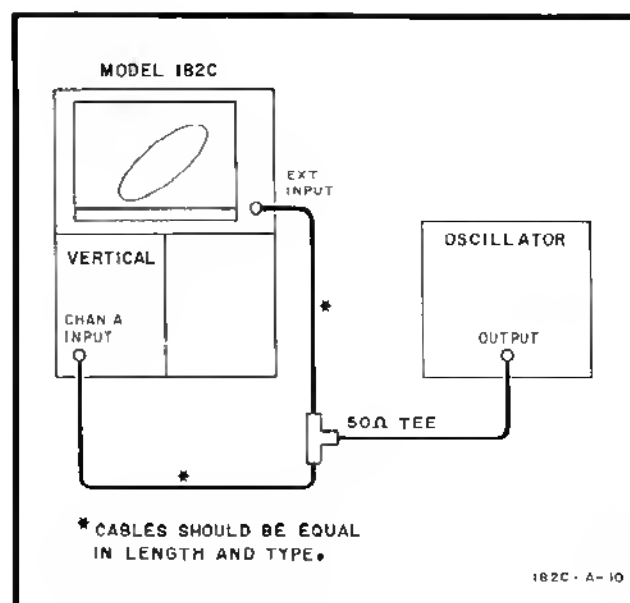

Figure 5-4. Phase Adjustment Test Setup
b. Connect 10 kHz sine wave output of Oscillator to HORIZONTAL EXT INPUT and to Vertical plug-in Channel A input (Figure 5-4).